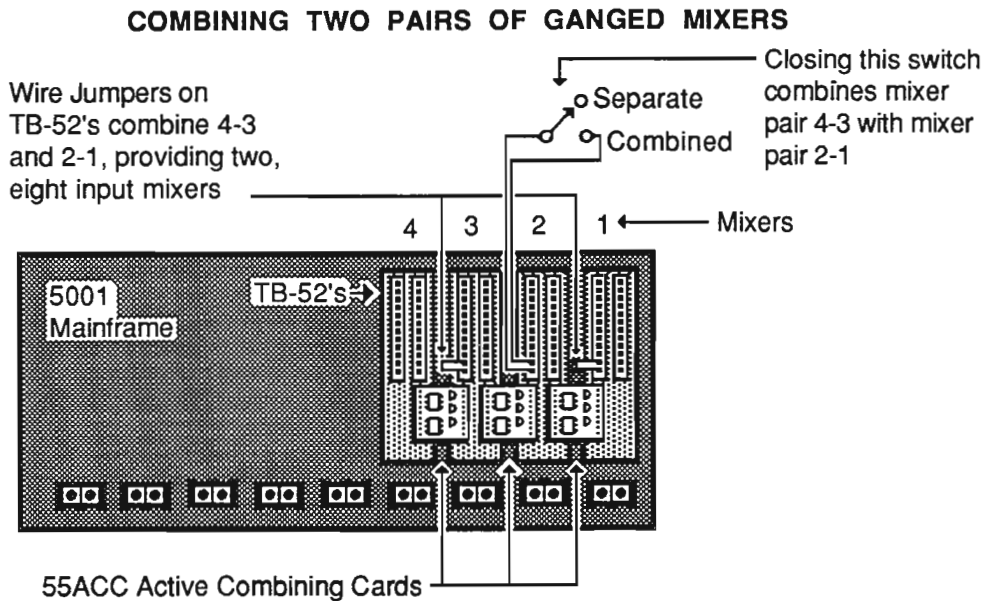

Figure 15
Three (3) 55ACC cards are required. They are used as illustrated in Figure 15 below. Notice that the Master/Slave switch wired to the second mixer's TB-52 provides the room combining function. This switch line carries only low level DC and can be remoted to a convenient location. Additional mixers could be ganged with mixers 2 and 4 using 55PCC cards *as long as a 55ACC is used between the two groups of ganged mixers.*